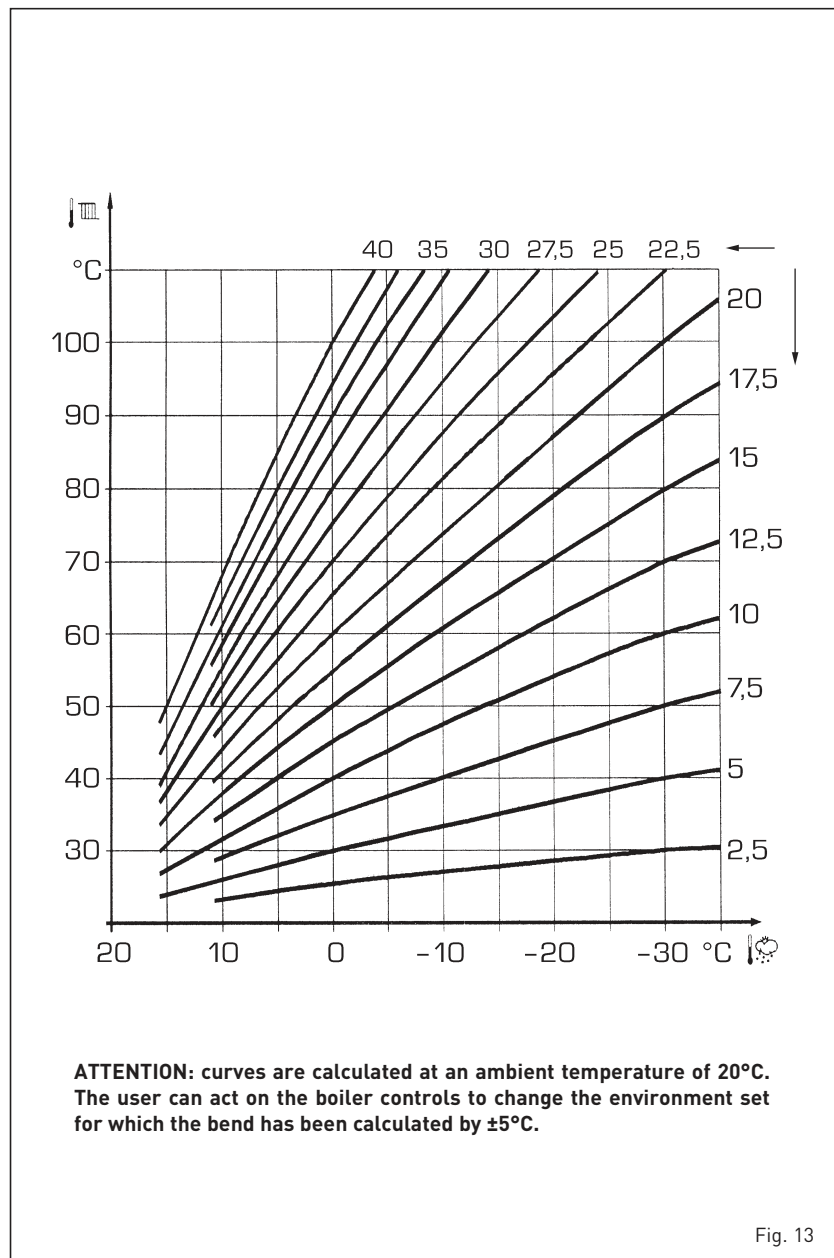

Fig. 13
3.4 EXTERNAL SENSOR (fig. 13)
If there is an external sensor, the heating settings SET can be taken from the climatic curves according to the external temperature and, in any case, limited to with the range values described in point 3.3 (parameters PAR 22 for zone 1, PAR 25 for zone 2 and PAR 28 for zone 3). The climatic curve to be set can be selected from a value of 3 and 40 (at step 1). Increasing the steepness of the curves of fig. 13 will increase the output temperature as the external temperature decreases.